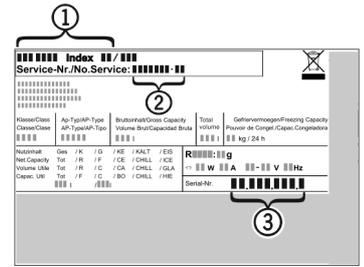

Fig. 14
- ▶ Read the appliance designation Fig. 14 (1), service No. Fig. 14 (2) and serial No. Fig. 14 (3) off the model plate located inside the appliance on the left-hand side.
- ▶ Notify the customer service, specifying the fault, appliance designation Fig. 14 (1), service No. Fig. 14 (2) and serial No. Fig. 14 (3).